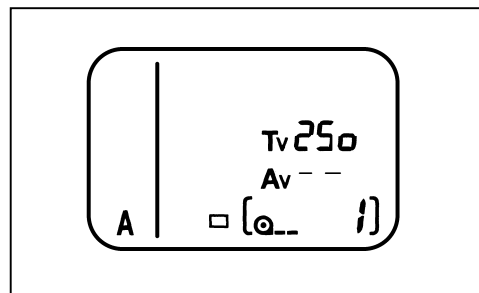

Figure 4-1. Camera Display Panel Depicting Shutter Speed Reading.
- To check if all systems are working properly, press the **CAMERA SHUTTER** halfway to observe the camera display panel. The shutter speed and aperture (Figure 4-1, lower right) should not illuminate for more than 10 seconds. If the shutter speed continues to illuminate beyond 10 seconds, an electrical short may exist in a portion of the cable jack or in the camera itself.